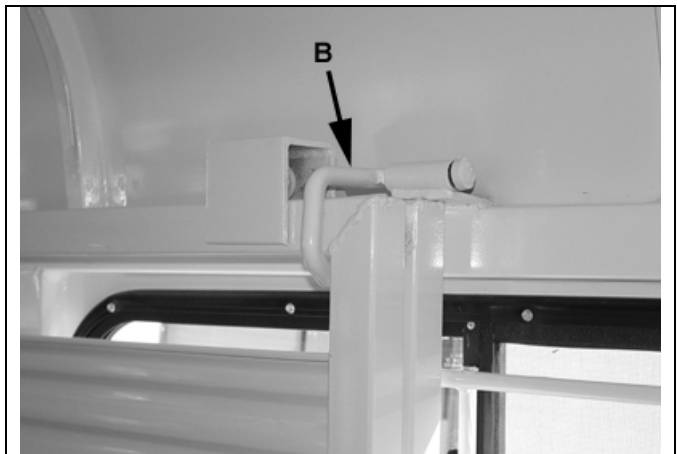

Figure 8-3 – Center Gate Open
Hold gate against trailer wall with latch (B). See figure 8-3.